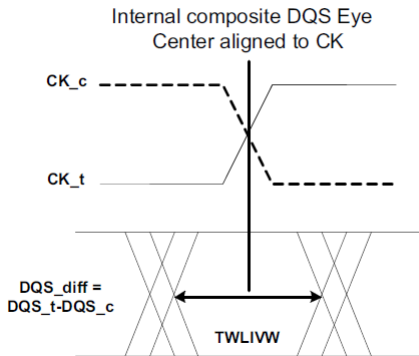

Figure 25. DQS_t/DQS_c to CK_t/CK_c timings at the DRAM pins referenced from the internal latch
- 28) t_{WLIVW} is defined in a similar manner to t_{DQSV} , except that here it is a DQS input valid window with respect to CK. This would need to account for all VT (voltage and temperature) drift terms between CK and DQS within the DRAM that affect the write-leveling input valid window. The DQS input mask for timing with respect to CK is shown in Figure 25. The "total" mask (t_{WLIVW}) defines the time the input signal must not encroach in order for the DQS input to be successfully captured by CK with a BER of lower than tbd. The mask is a receiver property and it is not the valid data-eye.